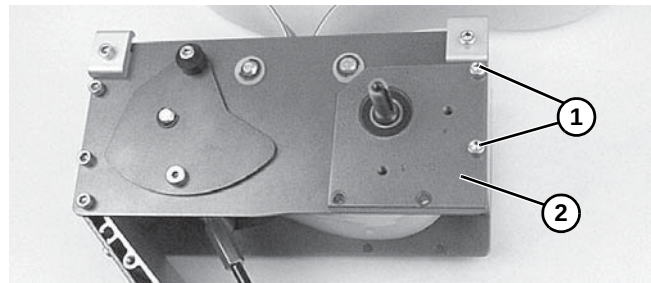
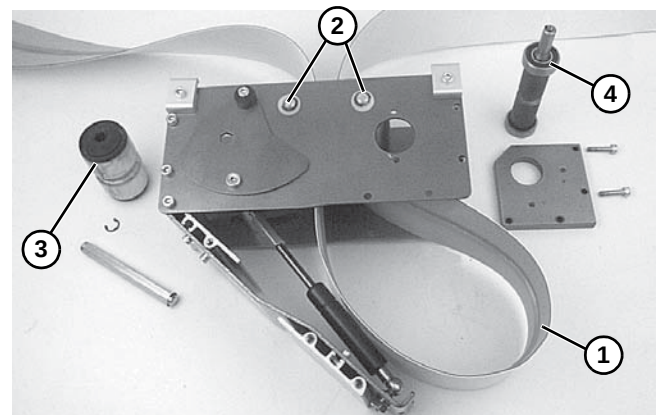

Figure 27
Figure 33
1. Remove drive plate screws (**Figure 27, item 1**).
Remove the tension drive plate (**Figure 27, item 2**).
2. Place loop of belt (Figure 33, item 1) into the drive module between top idler pulleys (Figure 33, item 2).
3. Place grooved idler pulley (Figure 33, item 3) into the belt loop and install it in the drive module. Refer to "Belt Removal from Drive Module" on page 14 and reverse step 3.
4. Place drive pulley (Figure 33, item 4) into the belt loop and install it in the drive module. Refer to "Belt Removal from Drive Module" on page 14 and reverse steps 1 and 2. Tighten screws (Figure 27, item 1) to 80 in-lb (9 Nm).